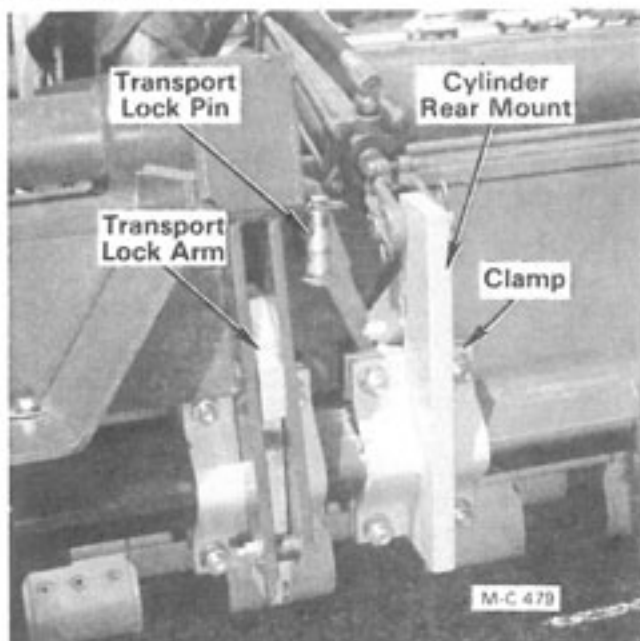

Figure 3 - S/N 46070 & Up
1. Install the cylinder rear mount assembly on the Shredder axle, see Figure 3. Position it